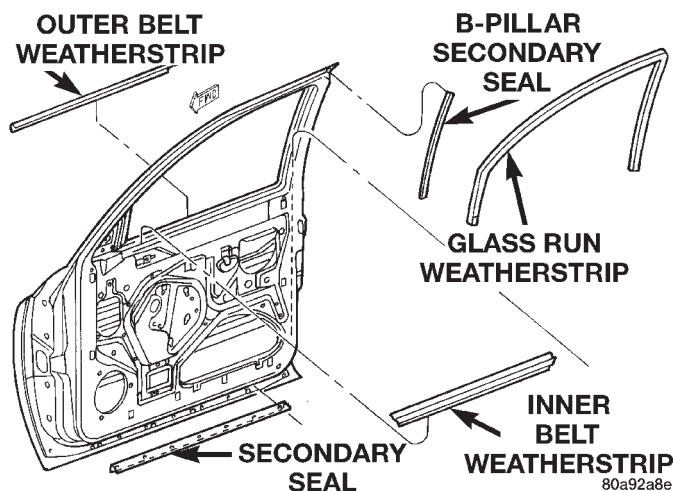

Fig. 39 Front Door Weatherstrip
- (1) Remove door trim panel.
- (2) Remove water dam as necessary to access lower glass run channels.
- (3) Remove the bolts attaching the glass run channels.
- (4) Remove glass.
- (5) Pull the glass run weatherstrip and run channels from the window opening (Fig. 39).
- (6) Pull the glass run weatherstrip from the run channels.